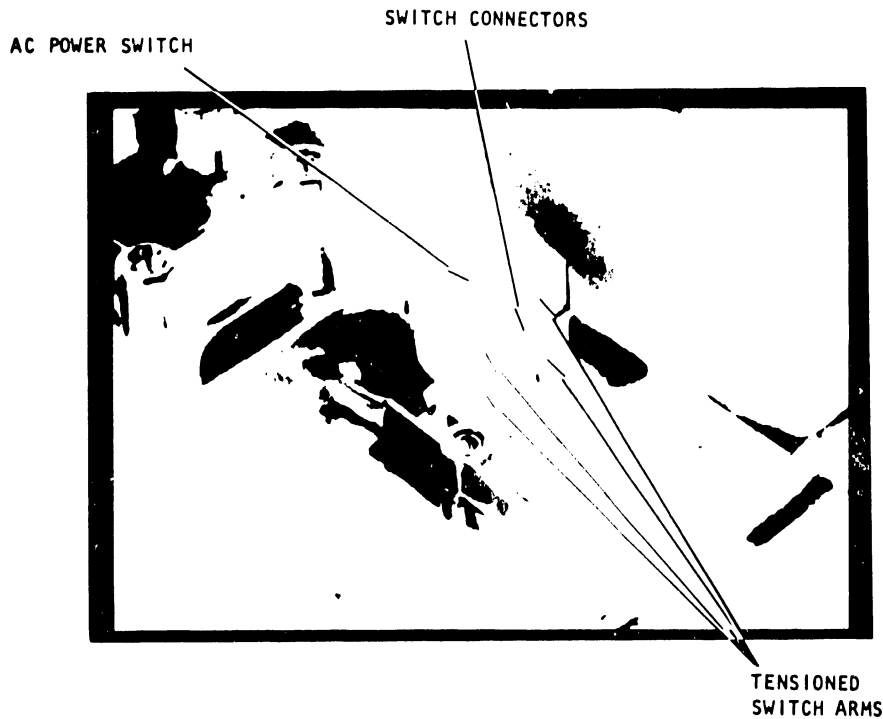

Figure 3-7. AC POWER Switch Removal/Replacement
3.4.1 AC Power Switch Removal/Replacement (Without Acoustic Cabinet) (Figure 3-7)